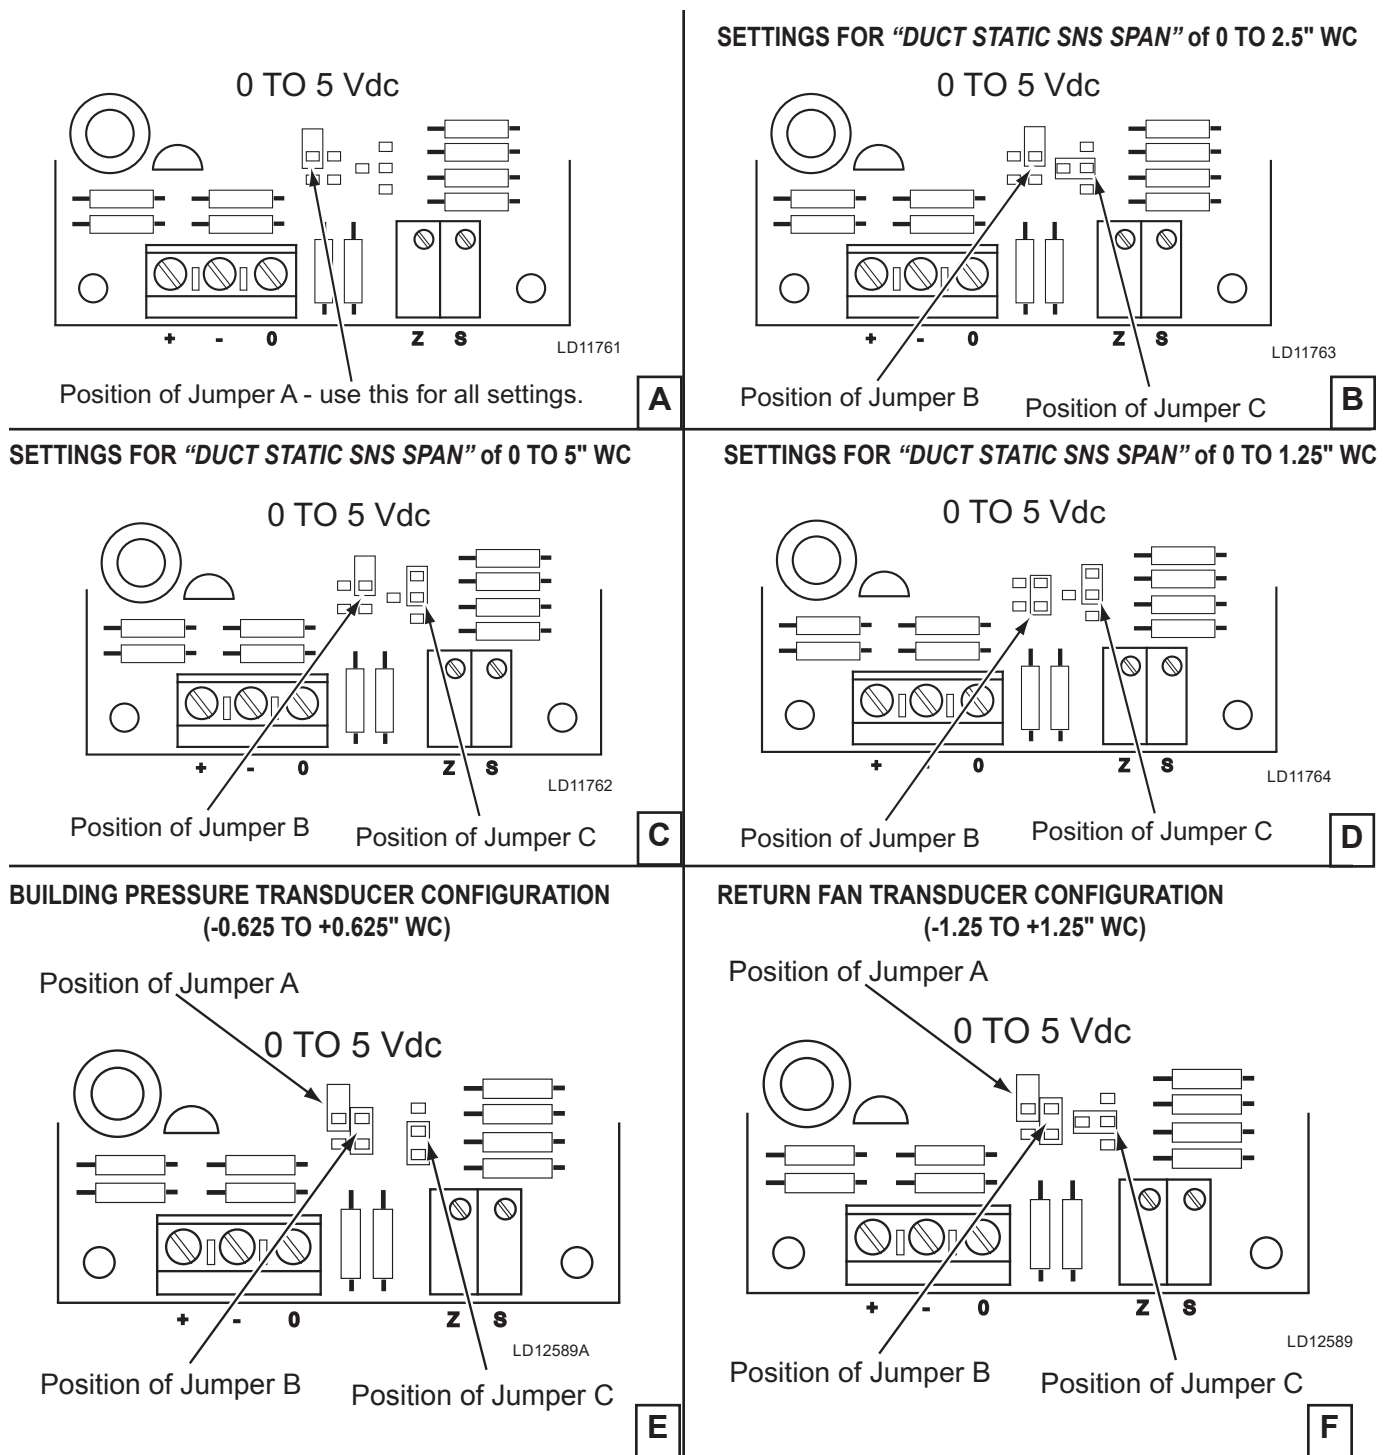

FIG. 8-1 – MAMAC TRANSDUCER CONFIGURATIONS
5.0" WC. In addition to changing the “DUCT STATIC SNS SPAN” setting in the Unit Controller the transducer must also be reconfigured for different ranges. To configure the transducers for other ranges refer to Figure 8-1.